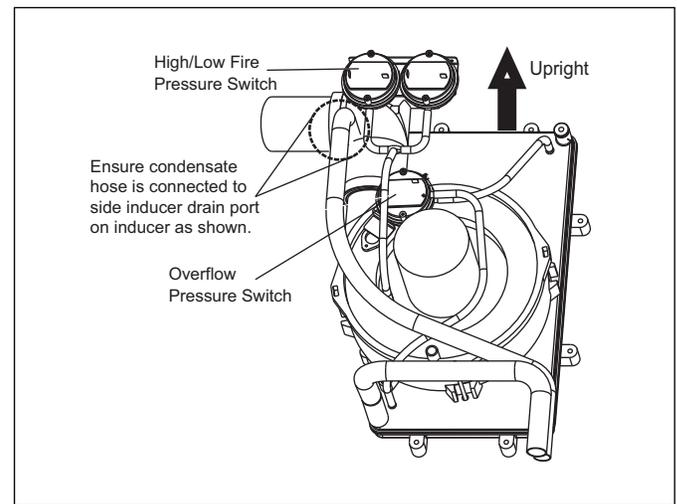

Figure 18 Pressure Switch Position
**For installations with left air discharge and venting outlet through furnace side panel (see Figures 18 and 20).**
14. Relocate the High/Low Fire Pressure Switches (2) to the opposite side of the cabinet (as shown in Figure 18 and 20). Screws for mounting these switches should not interfere with any components inside the furnace.